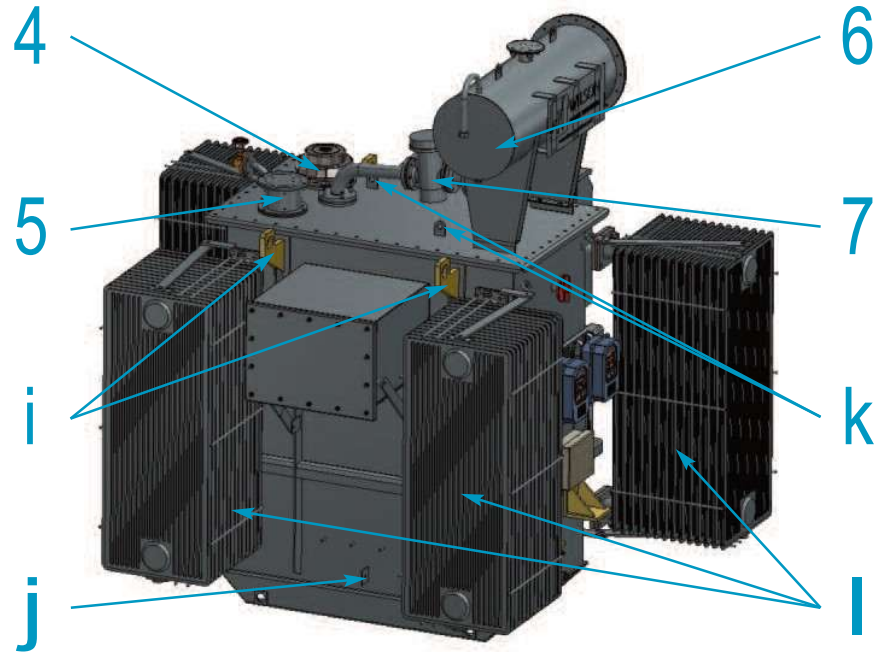

Figure 1b - Transformer View from LV Side
- I. Transformer lifting eyes (Figure 1b)
- J. Tank earthing terminals (Figure 1b)
- K. Transformer lid lifting eyes (Figure 1b)
- L. Radiators (Figure 1b)
- 4. Pressure relief device (PRD) (Figure 1b)
- 5. Current transformer connection box (Figure 1b)
- 6. Conservator (Figure 1b)
- 7. Buchholz relay (Figure 1b)